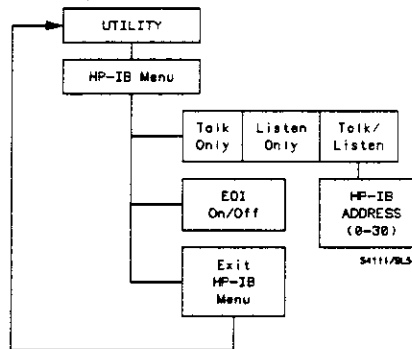

Figure 13-2. Utility/HP-IB Menu
- Set the HP54111D to talk only mode (see figure 13-2).